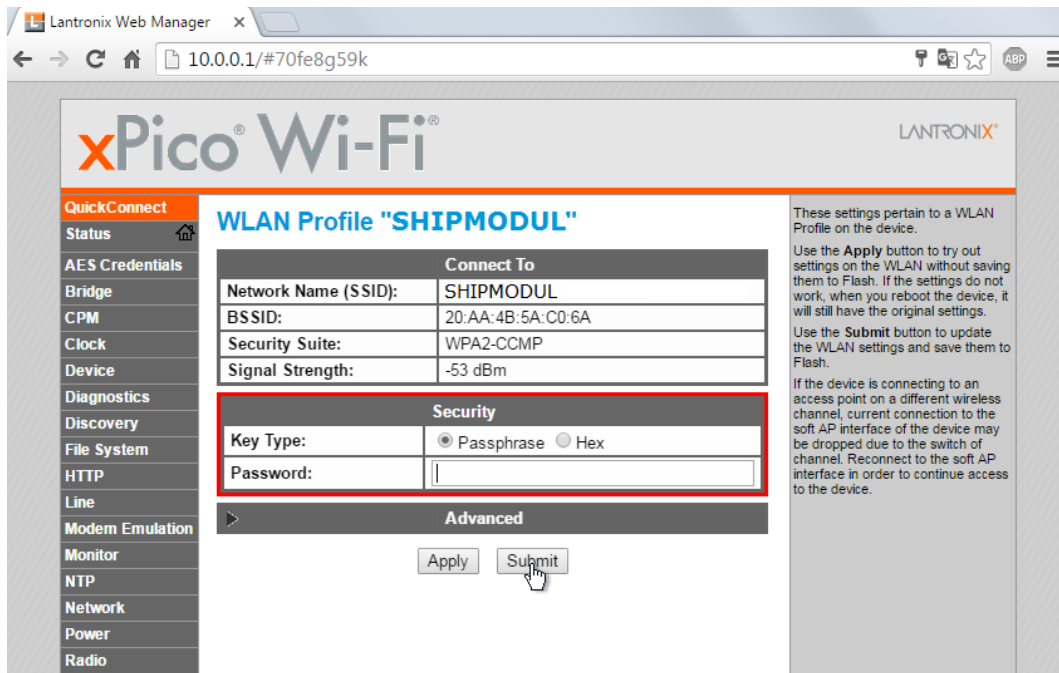

Figure 30
- This will show a **WLAN Profile** page of the selected access point (Figure 30).